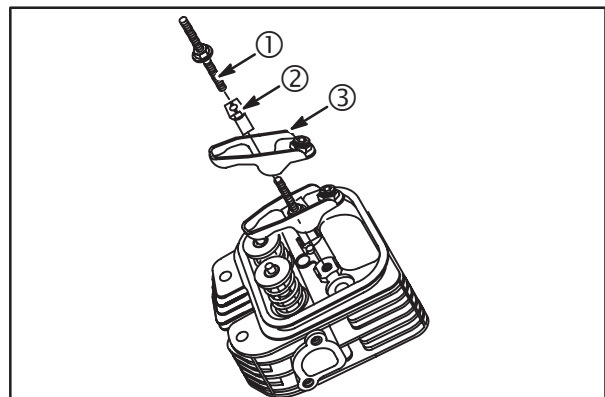
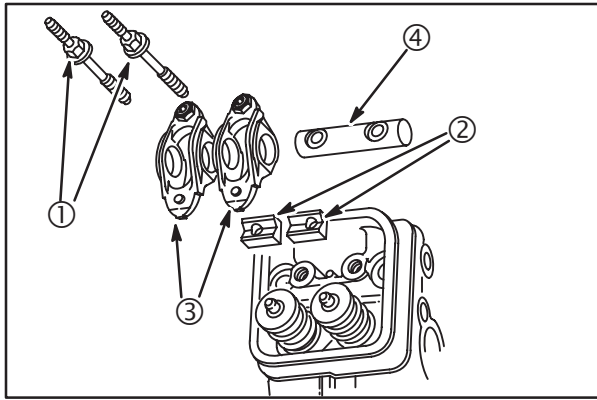

Fig. 4
Fig. 5
1. Remove two rocker studs (1) supports (2) and rocker arm assemblies (3), **Fig. 4** (current) or **Fig. 5** (early). Remove rocker arm shaft (4, early versions).